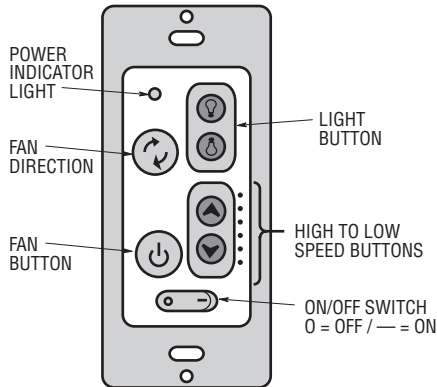

Figure 10
Operation of Your Wall Control (Figure 10)
- 11. Position the housing cover (Figure 10) on the switch housing and secure using the screws removed in Step 1.